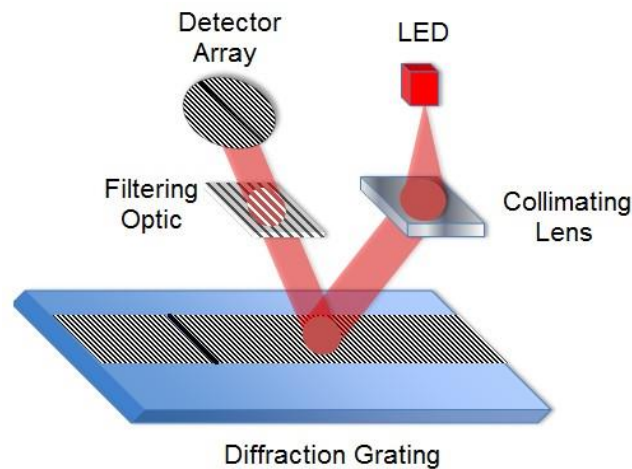

Figure 1
Example below in Figure 1 shows a slope error of $-29.7 \mu\text{m}/\text{m}$
- Example plot below in Figure 2 shows a linearity error of $\pm 1.13 \mu\text{m}$ (same data as Figure 1 but with an expanded vertical axis)